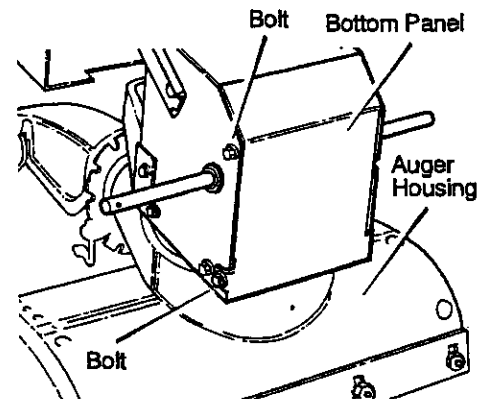

Figure 37
2. Stand the snow thrower up on the front end of the auger housing (see Figure 37).
4. Loosen the bolts on each side of the bottom panel (see Figure 37).
5. Install the bottom panel (see Figure 37).
2. Stand the snow thrower up on the front end of the auger housing (4). (see Figure 37).